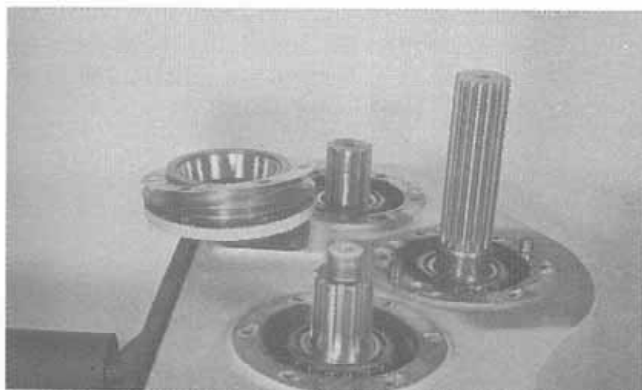
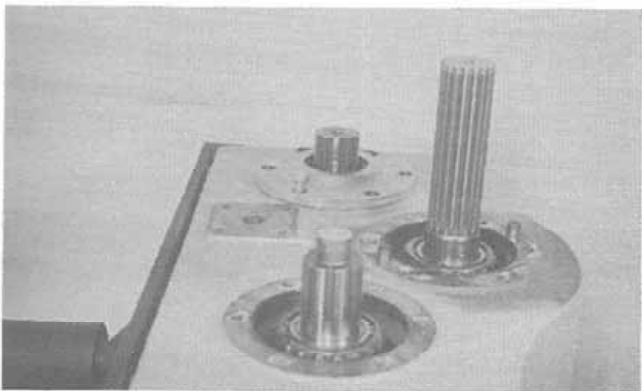

Figure 22:
Figure 23:
16. Place shims on the input shaft front bearing cap in the same manner as step 13 (Fig. 22). Align the cap with the shaft and housing, and install completely. During installation of the cap, protect the oil seal from damage because of contact with the splined shaft (Fig. 23).